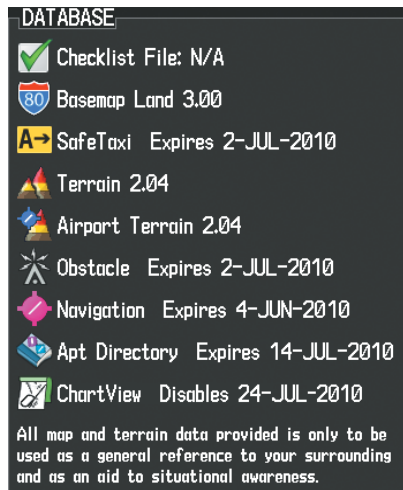

Figure B-10 Database Information on the Power-up Screen
- 4) Apply power to the system, check that the databases are initialized and displayed on the power-up screen (Figure B-10). If a ‘Verifying’ message is seen, wait for the system to finish loading before proceeding to step 5.
- 4) Apply power to the system, check that the databases are initialized and displayed on the power-up screen (Figure B-10). A 'Verifying' message may be seen. If this message is present, wait for the system to finish loading before proceeding to step 5.